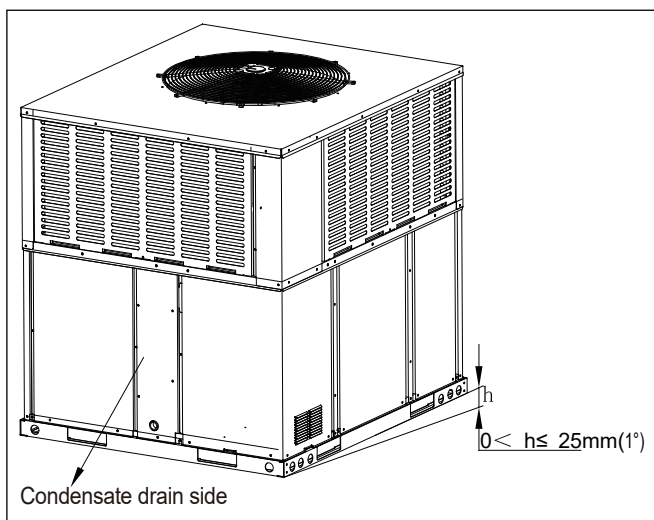

Figure 2-2
6. Unit must be slightly inclined toward drain connection.(See Figure 2-2).